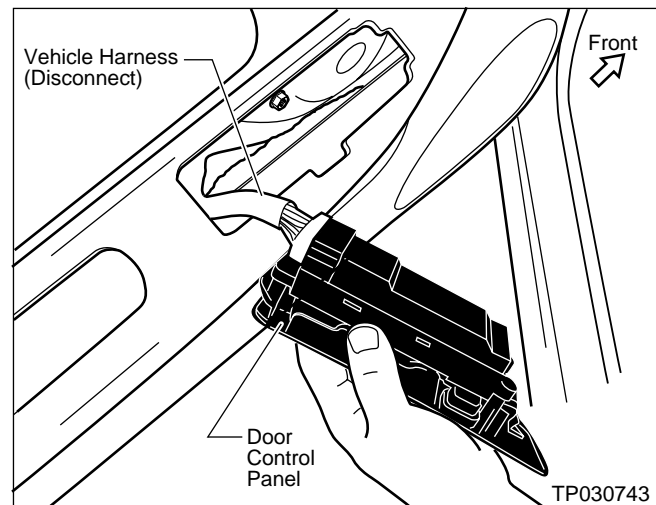

Figure 4
4. Disconnect the Vehicle Harness from the Door Control Panel (see Figure 4).